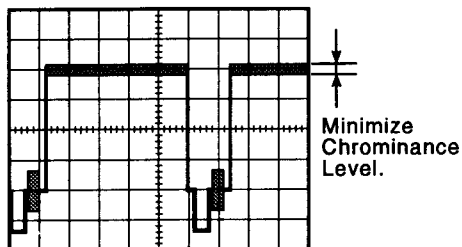

Fig. 5-45
- Adjust data with the **ARROW** keys so that the false chrominance level becomes minimum as shown in Fig. 5-45.